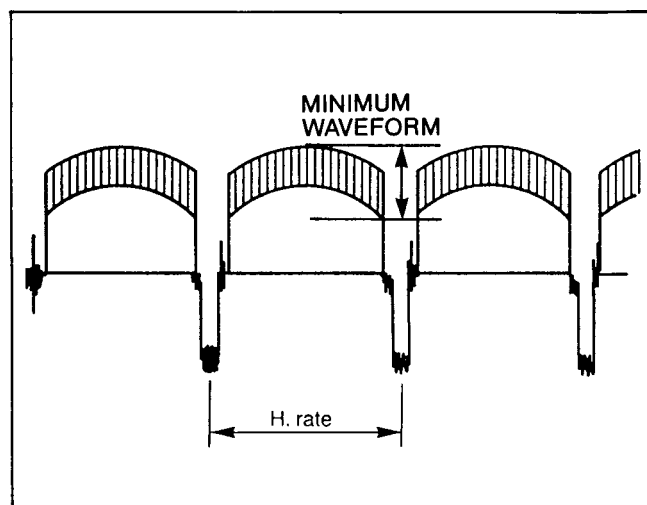

Fig. C26
- (1) Aim the camera at a sunny outdoor source (window, etc.).
- (2) Incoming light must be from an outdoor source only; source and illumination on the sensor must be more than 500Lx, and colour temperature must be within 5000 degrees -6000 degrees Kelvin. (Refer to Fig. C26.)